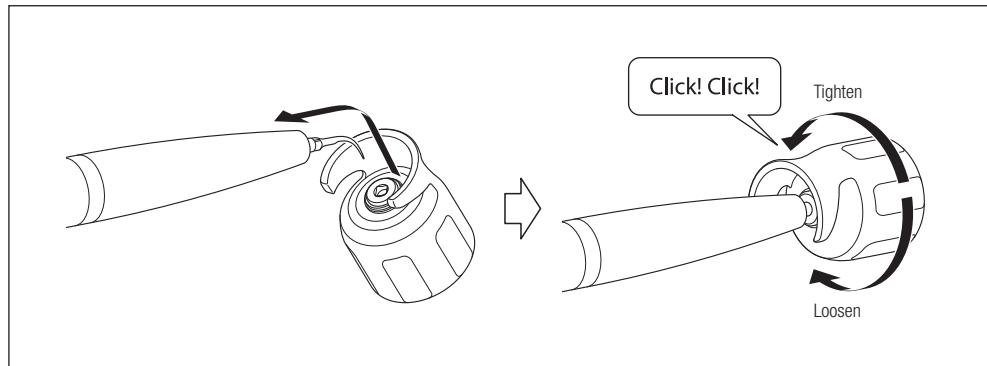

Fig. 16
3) Match the square shape of the Tip with the hole of the Tip Wrench, then insert the Tip into the hole. Rotate the Wrench until it makes a click sound and cannot rotate any further. During this procedure, hold the Handpiece so that the Handpiece Cord does not become twisted. When removing the Tip, rotate the Wrench in the direction of the "Loosen" arrow (Fig. 16).